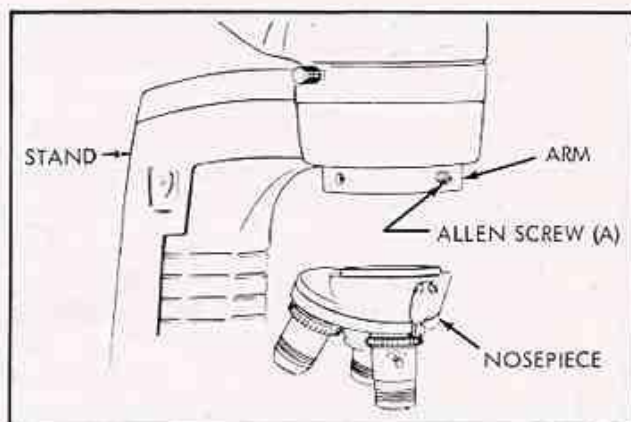

Figure 41. Removing Nosepiece
To remove the nosepiece (see figure 41), lower the nosepiece with the coarse adjustment until the front allen screw (A) becomes accessible. Back off the allen screw, and remove the nosepiece. Do not alter the position of the two allen screws on the sides of the arm; these are a factory set adjustment.